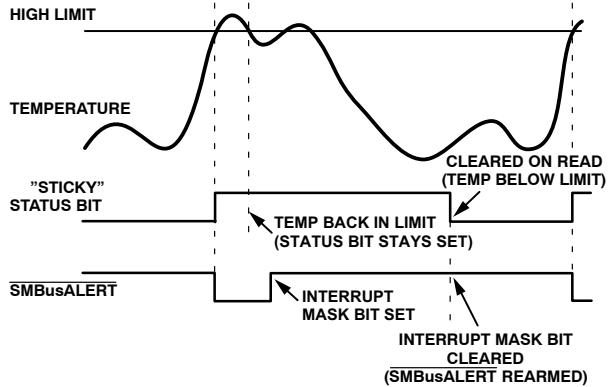

Figure 31. Handling $\overline{\text{SMBusALERT}}$
- Periodically poll the status register. If the interrupt status bit clears, reset the corresponding interrupt mask bit to 0. The $\overline{\text{SMBusALERT}}$ output and status bits then behave as shown in Figure 31.